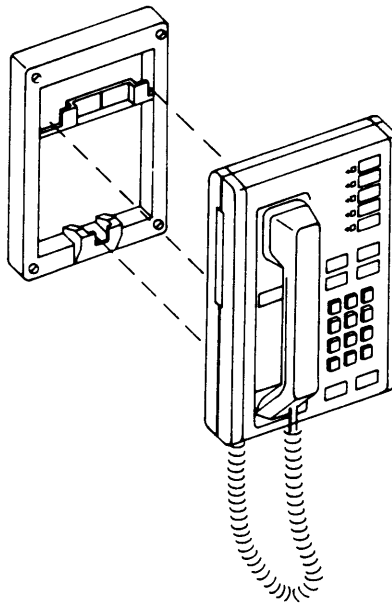

Figure 10
13. Gently slide the voice terminal down so the voice terminal tabs fit securely in the three mounting slots (see Figure 10). Forward pressure must be applied to the voice terminal so the terminal's locking tab is depressed.